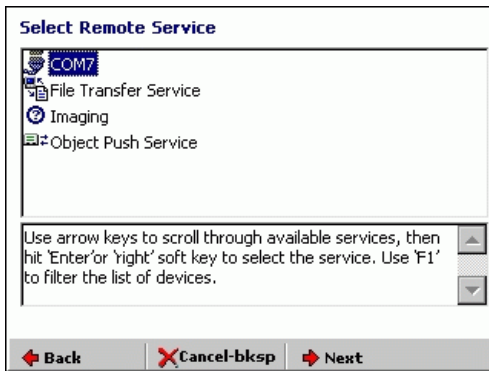

Figure 2-126 *New Connection Wizard, Select Remote Service Screen*
4. Select *Next* in Figure 2-126. A *Connection Summary* window displays.